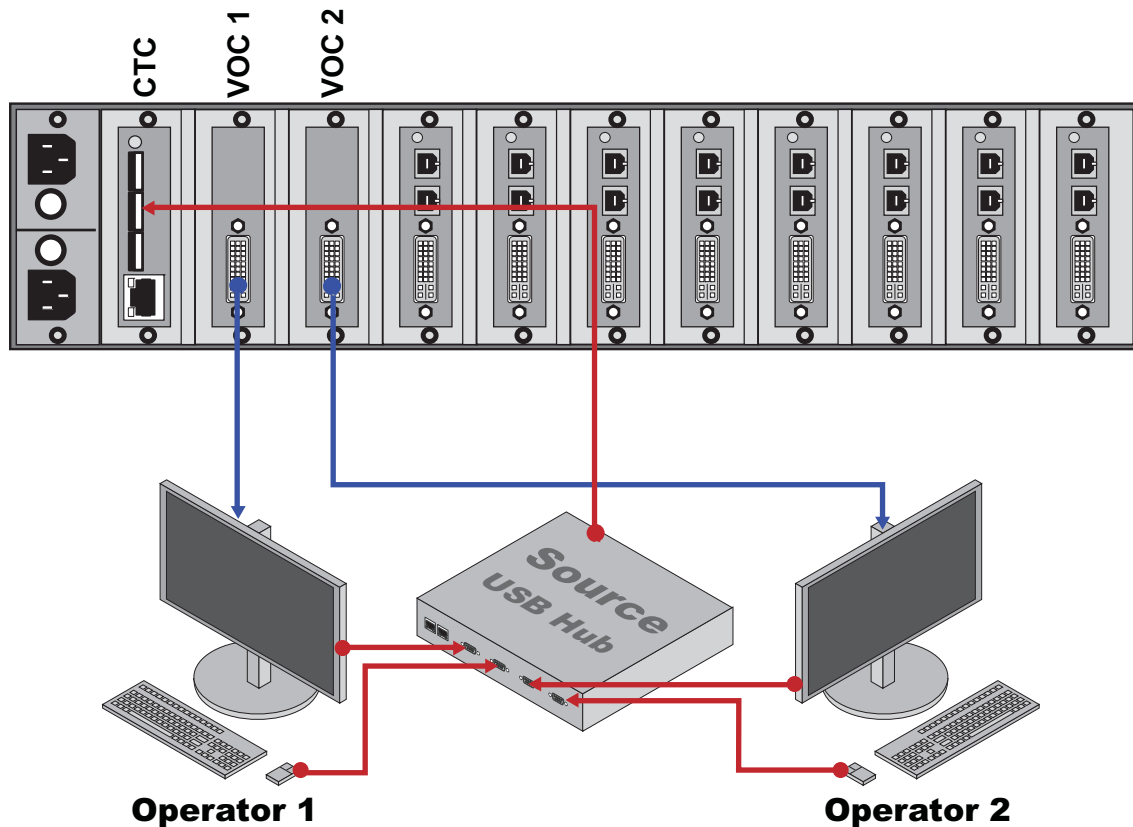

Figure 22.1 Connections — Dual Operator Setup
**Figure 22.1** is the connection diagram for the Dual Operator configuration.